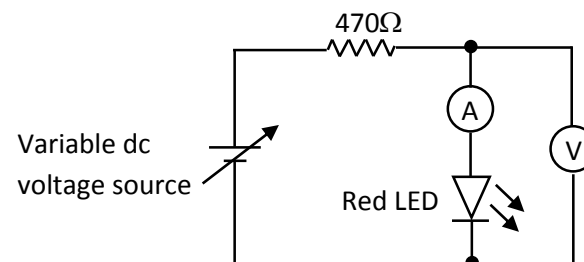

Figure 10: Circuit diagram of the forward bias LED
13. Connect the circuit shown in Figure 10 using Red LED.